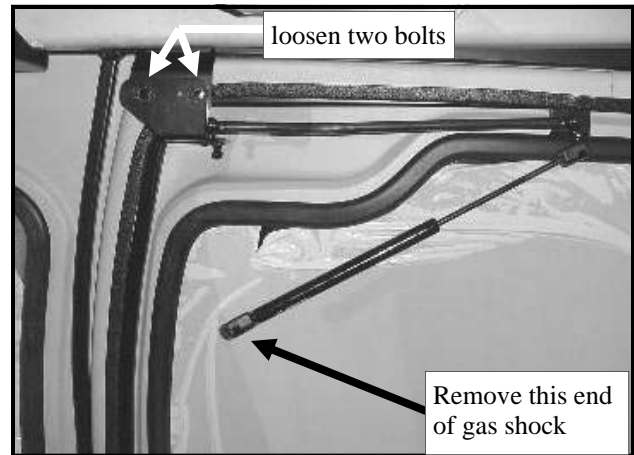

Fig. 4.1 (view from inside of driver's side door)
4.1 Per fig. 4.1, remove the sideframe end of the gas shock by releasing the metal clip and pulling the housing off the pivot ball. Loosen the two top pivot bolts.